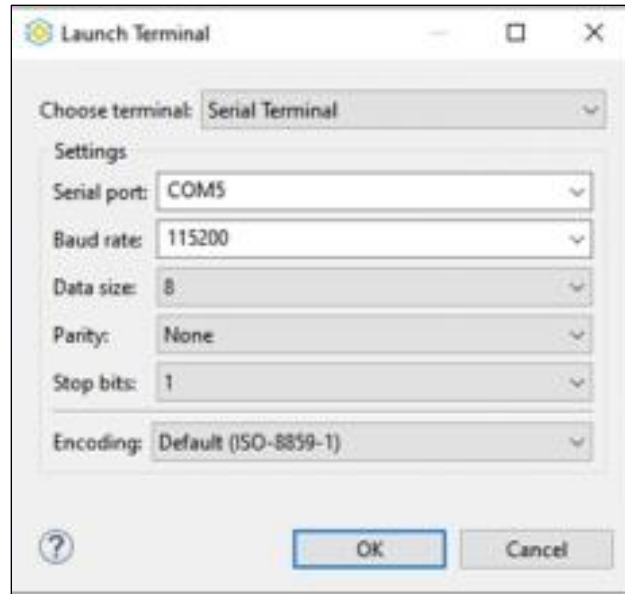

Figure E.13. Propel terminal – Com and Baud Rate Selection
- c. Choose terminal: Serial terminal as shown in Figure E.13.